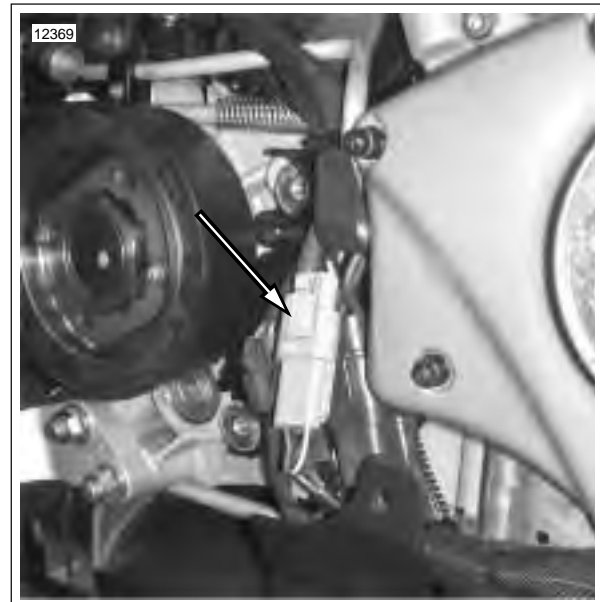

Figure 7-73. Vehicle Speed Sensor Connector [65]
1. See Figure 7-73. Locate the 3-place vehicle speed sensor connector [65] under the sprocket cover. See 2.35 SPROCKET COVER.
1. See Figure 7-73. Disconnect vehicle speed sensor connector [65]. Attach speedometer tester connector to vehicle speed sensor connector.